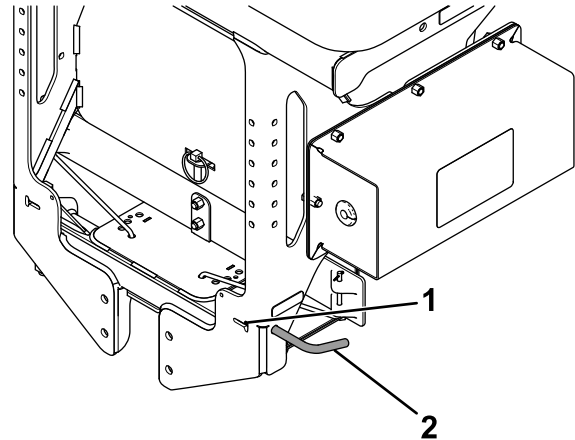

Figure 25
3. Pull the spinner spring pin outward and lock it into the keeper slot (Figure 25).